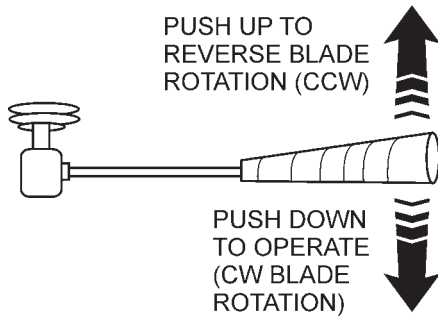
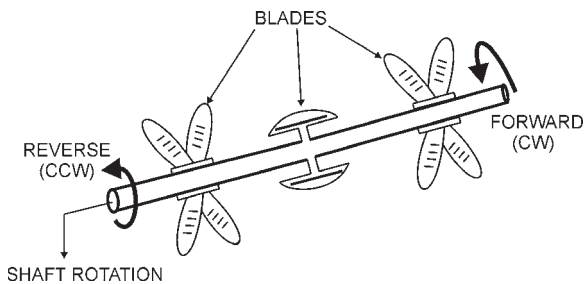
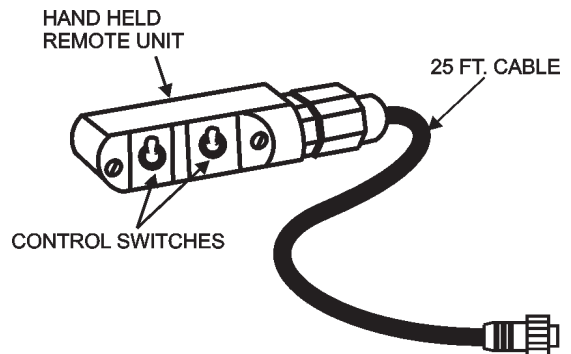

Figure 34. Hopper Remixer Control Lever
Figure 35. Hopper Remixer Blades (Rotation)
Figure 37. Handheld Remote Cable Unit
The Hopper Remixer Control lever is located to the left of the Hydraulic Temperature gauge is (Figure 34).
1. Push the Hopper Remixer Control lever **DOWNWARD** (Figure 35) and observe that the blades (Figure 37) inside the hopper are turning in a clockwise direction (forward).
2. Push the Hopper Remixer Control lever **UPWARD** (Figure 34) and observe that the blades (Figure 35) inside the hopper are turning in a counter-clockwise direction (**REVERSE**).
The manual remote cord (Figure 37) should be installed under the main control box. Contact your MAYCO representative for further information.